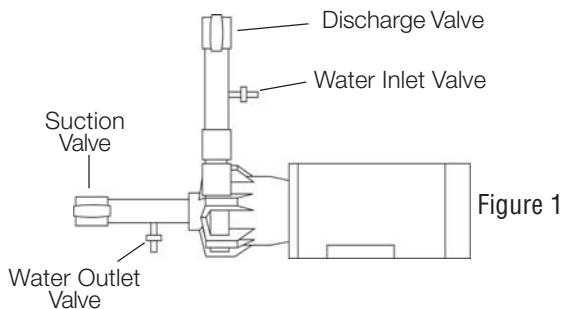

Figure 1
- (A) Increase pipe size by 1 diameter.
- (B) Use minimal number of pipe bends.
- ⚠ CAUTION:** To stop the pump if prime is lost, use one of the following: (1) pressure switch on the discharge, (2) vacuum switch on the suction, (3) a power monitor to monitor pump motor power.
10. When pumping liquids that may solidify or crystallize, a flush system should be added to the piping. See Figure 1. Install water inlet and outlet valves as shown.